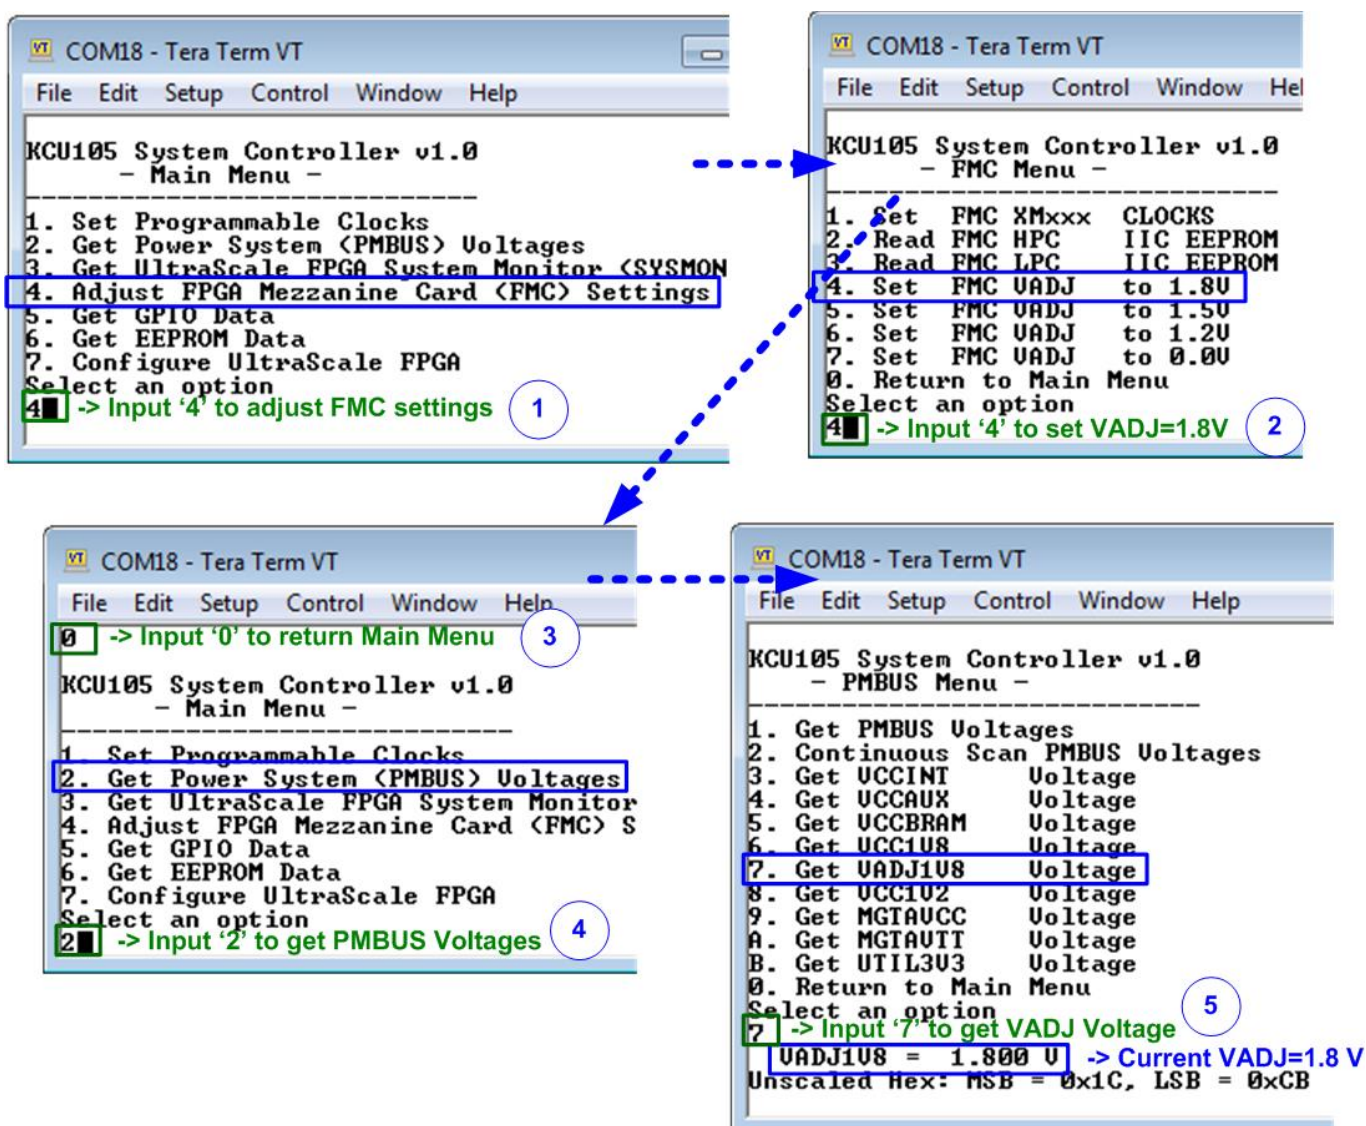

Figure 2-7 Setting VADJ of FMC for KCU105
- a) For KCU105 board, open Serial console to connect with Enhanced COM port (Baud rate=115,200 Data=8 bit Non-Parity Stop=1). The console shows System Controller menu, as shown in Figure 2-7. To set VADJ of FMC to 1.8V, the following step is recommended.
- (1) Input '4' to select Adjust FMC Settings.
- (2) Input '4' to set FMC VADJ to 1.8V.
- (3) Input '0' to return to Main Menu.
- (4) Input '2' to get PMBUS Voltages.
- (5) Input '7' to get VADJ1V8 Voltage. The output voltage of this menu must be equal to 1.8V to confirm that VADJ has been set completely.